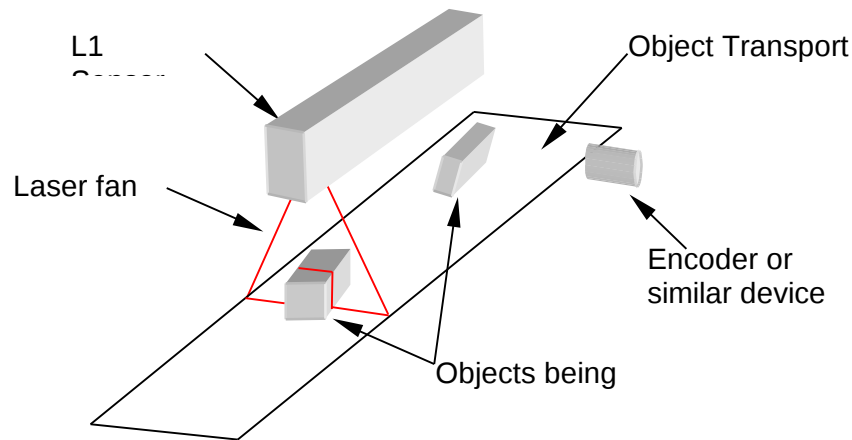

Figure 2. Typical Profile Scanning Application of L1 Sensor
In most applications the object to be scanned is moved underneath the L1 sensor (applications with the sensor moving are also possible) and an encoder or similar device is used to generate a third (Z) axis as indicated in **Figure 2**.